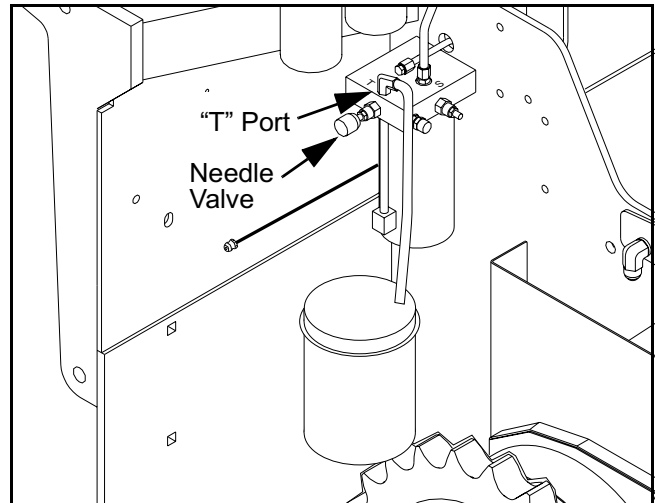

Figure 6 - 4 Bottoming Tension Cylinder
- 1) Disconnect the line from the "T" port on the track tension cylinder. Install a plug into the disconnected line. (Figure 6 - 4)